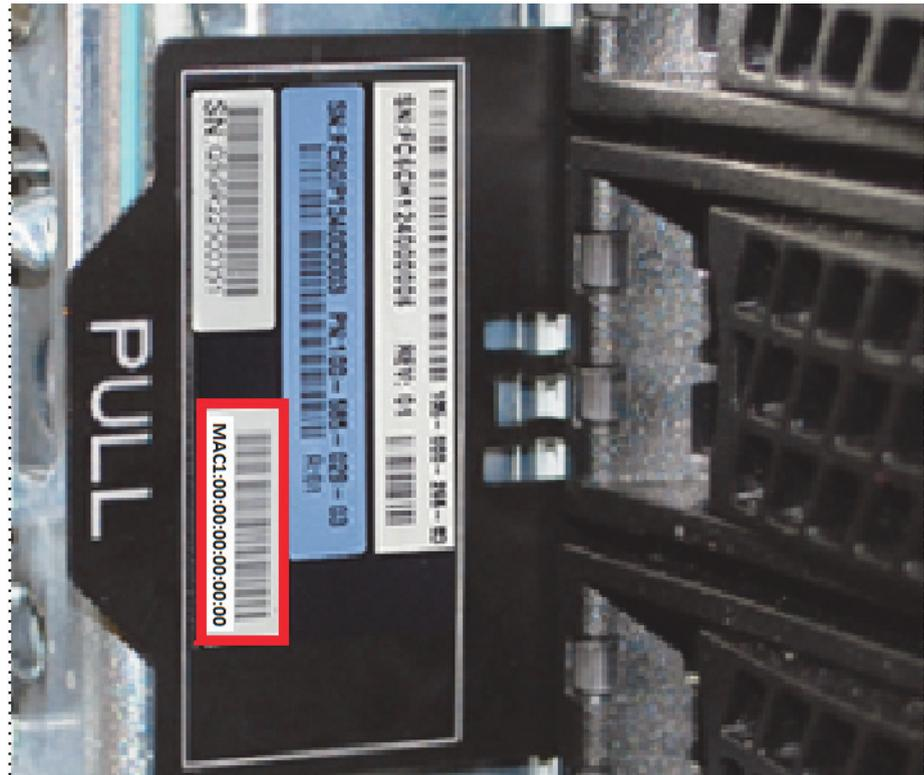

Figure 11 Locating the MAC address on the service tag (server shown, Dragon12)
- d. Locate the MAC address on the replacement server's service tag (highlighted in **Figure 11**):